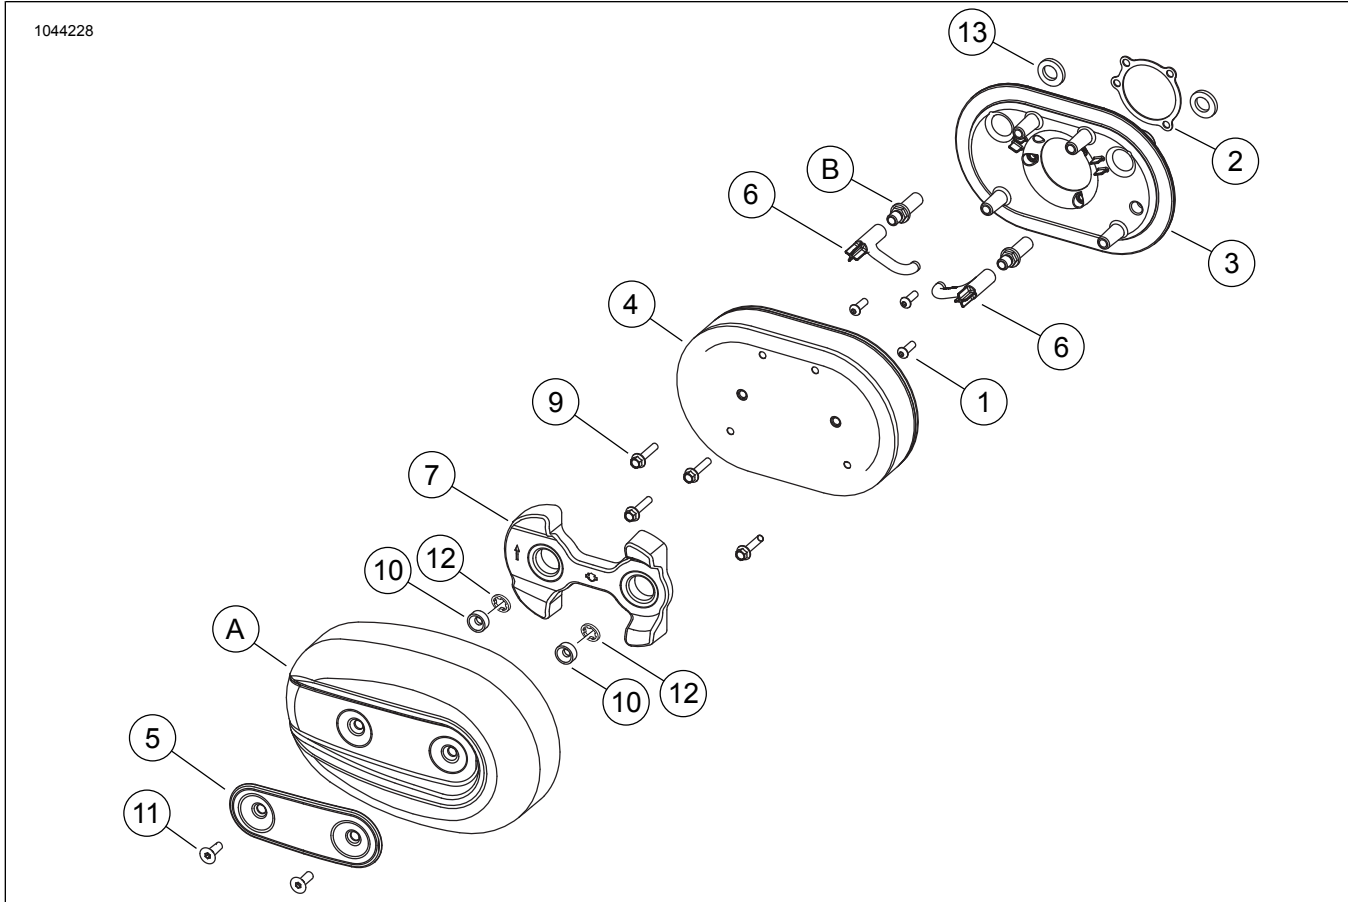

Figure 1. Service Parts: Screamin' Eagle High Flow Air Cleaner Kit For Sportster
See Figure 1 and Table 1.
2. Install three screws (1) fully into backplate inserts.
3. See Figure 1. Peel backing paper off air cleaner-to-carburetor gasket (2) and apply to "carburetor side" of backplate. Make sure gasket holes are lined up with backplate holes. Install screws and gaskets with a small amount of Loctite 243 (blue) to the threads.
4. Mount backplate (3) to carburetor. Align the three 1/4-20 screw holes in carburetor with the matching holes in the backplate. Tighten screws to: